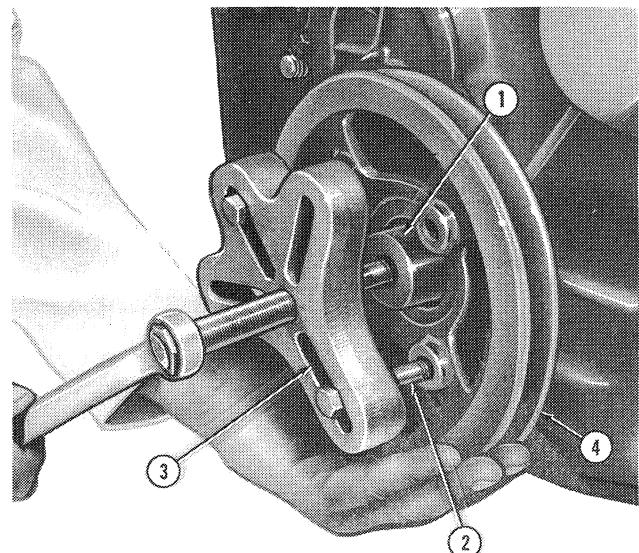

Figure 22
3. Using Puller No. 518 or 9539 and Shaft Protector 9212, remove the crankshaft pulley, Figure 22.